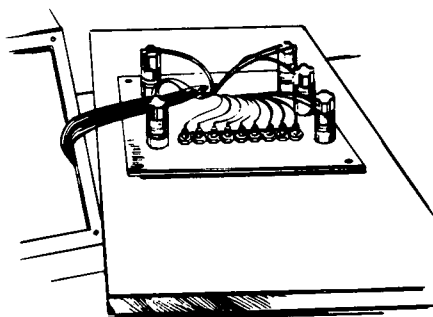

Figure 7-4. CONTROL PANEL REMOVED.
3. See Figure 7-4. Lift panel off of washer and carefully turn over.